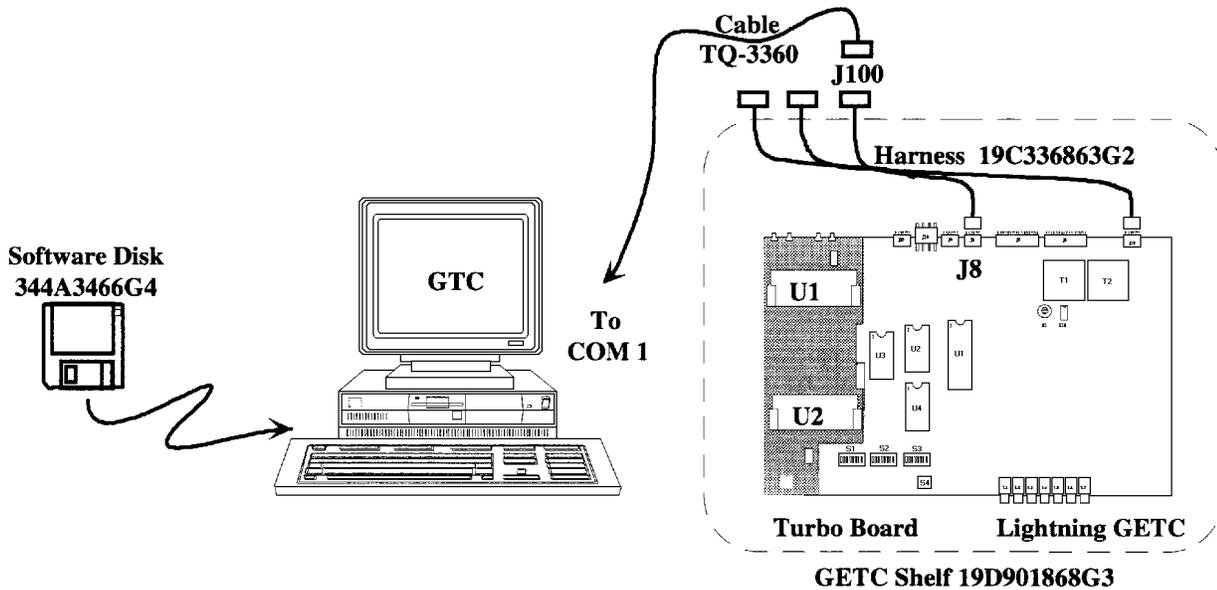

Figure 10 - Personality Programming
1. Connect the TQ-3360 programming cable from the PC's serial port connector (COM1/COM2) to the CNI GETC Shelf connector J100 (see Figure 10). (A DB-25 to DB-9 adapter may be needed.)